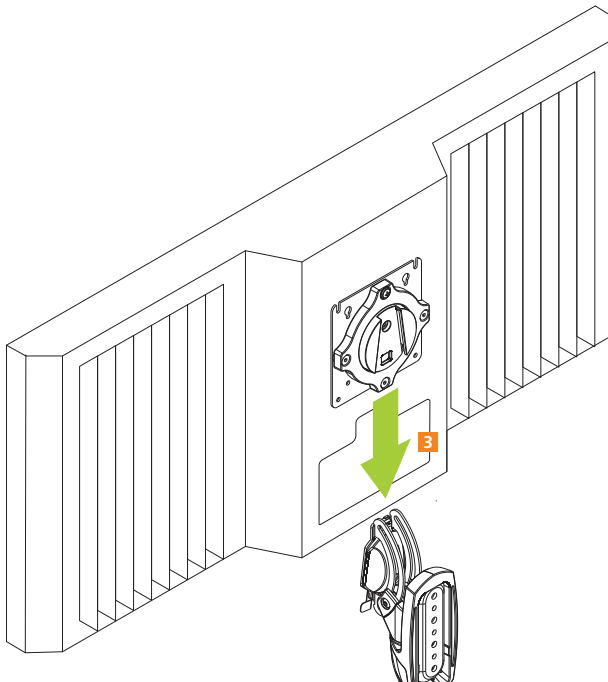

Figure 1-21 Position radiator onto Lingua RAD mount
4. Position radiator with faceplate attached above mount. (See Figure 1-21)